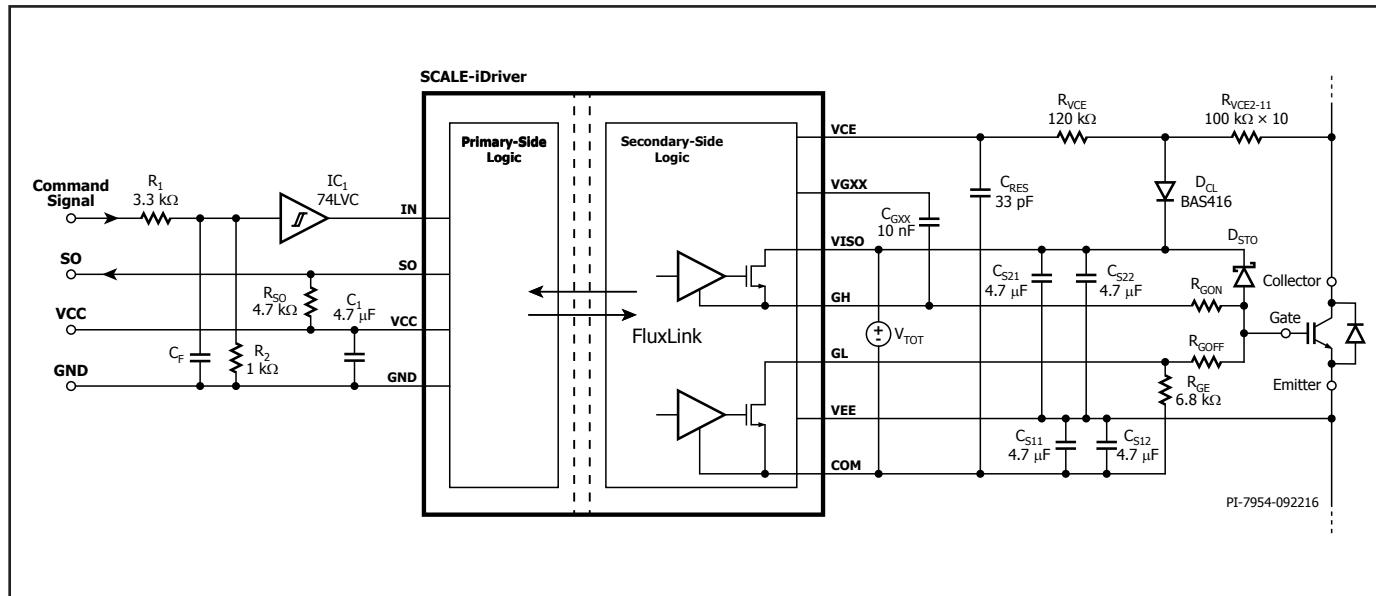

Figure 13. SCALE-iDriver Application Example Using a Resistor Network for Desaturation Detection.
The input (IN) and output (SO) logic is designed to work directly with micro-controllers using 5 V CMOS logic. If the physical distance between the controller and the SCALE-iDriver is large or if a different logic level is required the resistive divider in Figure 5, or Schmitt-trigger ICs (Figures 13 and 14) can be used. Both solutions adjust the logic level as necessary and will also improve the driver's noise immunity.
and power-down. Any supply voltage related to VCC, VISO, VEE and VGXX pins should be stabilized using ceramic capacitors  $C_1$ ,  $C_{S1X}$ ,  $C_{S2X}$ ,  $C_{GXX}$  respectively as shown in Figures 13 and 14. After supply voltages reach their nominal values, the driver will begin to function after a time delay  $t_{START}$ .
Figures 13 and 14 show the schematic and typical components used for a SCALE-iDriver design. In both cases the primary-side supply voltage ( $V_{CC}$ ) is connected between VCC and GND pins and supported through a supply bypass ceramic capacitor  $C_1$  (4.7  $\mu$ F typically). If the command signal voltage level is higher than the rated IN pin voltage (in this case 15 V) a resistive voltage divider should be used. Additional capacitor  $C_F$  and Schmitt trigger IC1 can be used to provide input signal filtering. The SO output has 5 V logic and the  $R_{SO}$  is selected so that it does not exceed absolute maximum rated  $I_{SO}$  current.
Figure 13 shows how switch desaturation can be measured using resistors  $R_{VCE2} - R_{VCE11}$ . In this example all the resistors have a value of 100 kΩ and 1206 size. The total resistance is 1 MΩ. The resistors should be chosen to limit current to between 0.6 mA to 0.8 mA at maximum DC-link voltage. The sum of  $R_{VCE2} - R_{VCE11}$  should be approximately 1 MΩ for 1200 V semiconductors and 500 kΩ for 600 V semiconductors. In each case the resistor string must provide sufficient creepage and clearance distances between collector of the semiconductor and SCALE-iDriver. The low leakage diode  $D_{CL}$  keeps the short-circuit duration constant over a wide DC-link voltage range.
Figure 15 shows the recommended PCB layout and corresponds to the schematic in Figure 13. The PCB is a two layer design. It is important to ensure that PCB traces do not cover the area below the desaturation resistors or diodes  $D_{VCE1}$  and  $D_{VCE2}$ . This is a critical design requirement to avoid coupling capacitance with the SCALE-iDriver's VCE pin and isolation issues within the PCB.